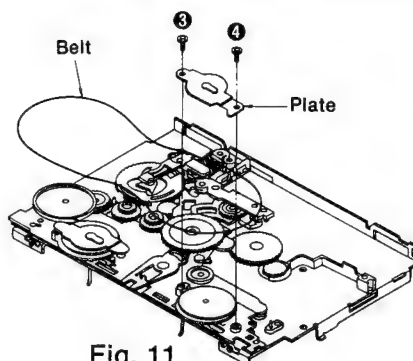

Fig. 11
4. Remove 2 screws (③, ④) and then the attachment plate to remove the belt. (See Fig. 11.)